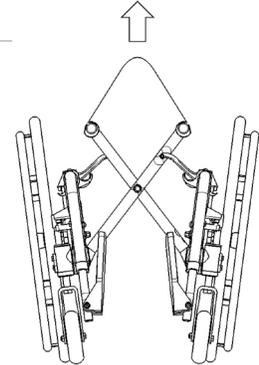

Fig. 1
- Lift the handle on the seat upholstery (Fig. 1).